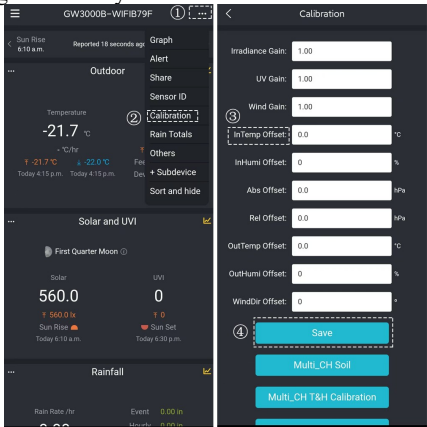

Figure 27
3. For a certain parameter(Use Indoor temperature as an illustration in the Figure 27). Calculate the offset of data from the accurate weather station and ecowitt sensor.